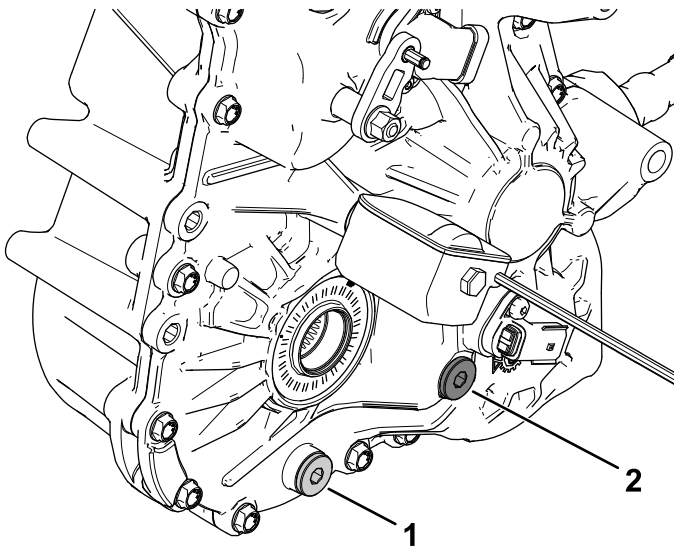

Figure 104
4. Remove the fill plug on the transaxle (Figure 104).
5. If the fluid level is low, remove the fill plug and add the specified fluid until it runs out of the hole (Figure 104).
1. Align a drain pan under the drain plug (Figure 104).
2. Remove the fill plug (Figure 104).
3. Remove the drain plug, and allow the fluid to drain completely (Figure 104).